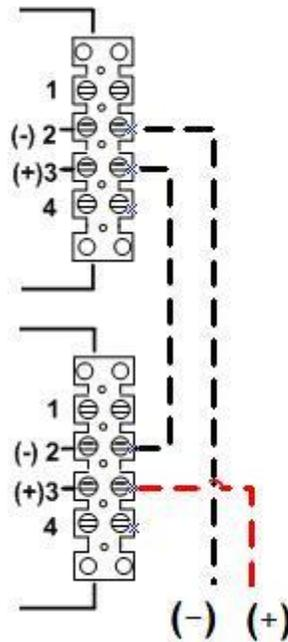

Figure 15: Multiple Solar Modules Connected in Series
Figure 15 shows the wiring configuration for multiple modules connected in series. This configuration allows solar modules to be grouped to match voltage levels required in the system design (two 12 Volt modules wired in series converts to a 24 Volt system). Note and carefully observe polarity while connecting the modules.
Carefully observe and note polarity when wiring the modules. Steps for wiring modules in series as shown in Figure 15 include:
- 3** Terminate the wire ends as shown in the Door Wiring Diagram and Figure 15 (Red +, Black -). Tighten the terminal screws to no more than 21 in-lbs. Check your connections to make sure they are the correct polarity. Close and secure the cover.